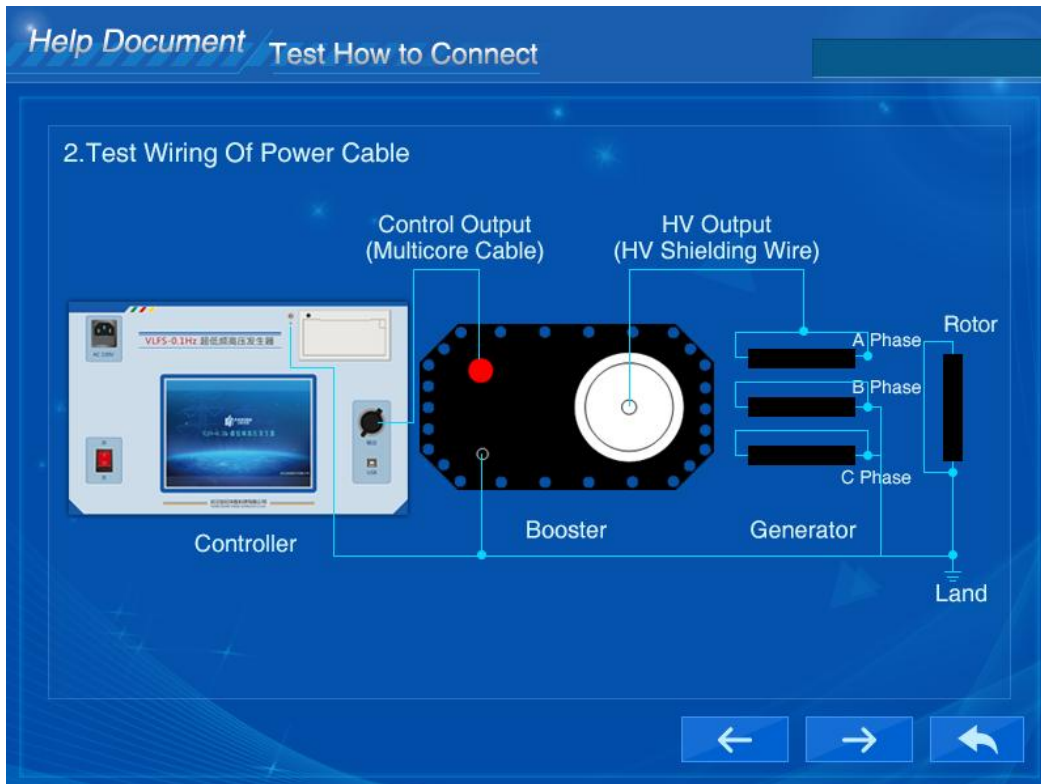

Figure 15 Wiring Diagram of Synchronous Motor
6. Test wiring: Connect the test equipment and the test cable with the special connecting wire attached with the machine according to the method shown in Figure 15. After carefully checking that the wiring is correct, switch on the power supply, set the test frequency, time, voltage, and the over-current protection value and the over-voltage protection value on the high voltage side, and then start the boost test.